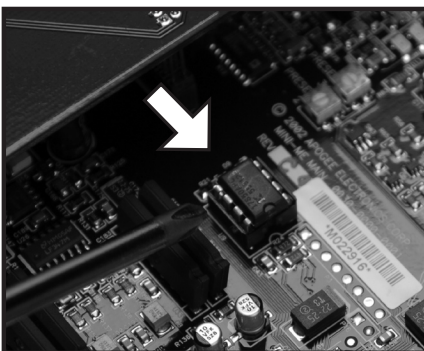

Figure 4
- Locate the EPROM depicted in figure 4, and note the orientation of the semi-circular notch found at one end of the chip.